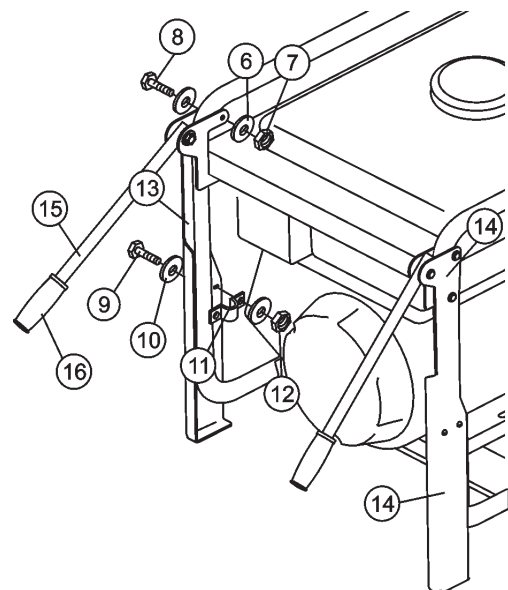

Figure 3. Handle Assembly
3. Place the left side handle frame against the generator pipe frame. Insert a washer and bolt through the bolt holes at the top of the frame. Push the frame support bracket onto the bolts and place a washer and nut on the bolt. Tighten the nut until the handle frame is secured to the generator frame (Figure 3).